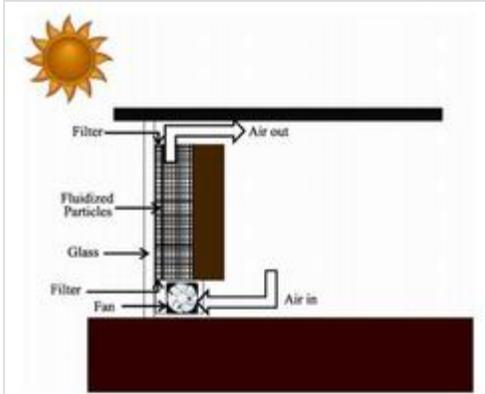

Figure 3: The fluidised Trombe wall is one variation of the classic Tromble wall which is far more efficient.
- The fluidised Trombe wall is like the classic Trombe wall, however, the gap between the Trombe wall and glass pane is filled with a low-density fluid which is highly absorbent. The air which is heated by the heated fluid is moved by a fan into the building. There are two filters at the top and bottom of the fluid which prevent fluidised particles from entering the room. Research has shown that the fluidised wall is far more efficient than the classic Trombe wall. This variation, however, is more expensive to construct. This variation of the Trombe wall can be seen in Figure 3.^[1]